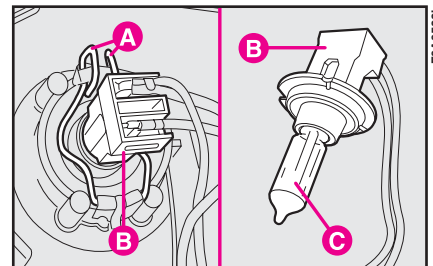

fig. 20
- 2) Release clip **A**-fig. 20, remove connector **B** and remove the bulb **C**.